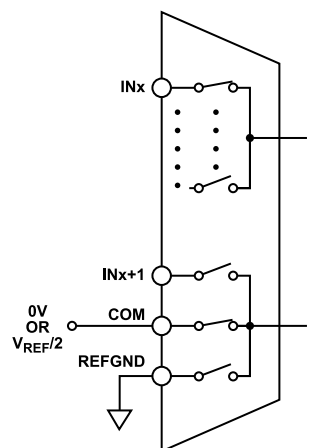

Figure 70. INx Paired with COM
- Figure 70, IN0 to IN15 paired with COM